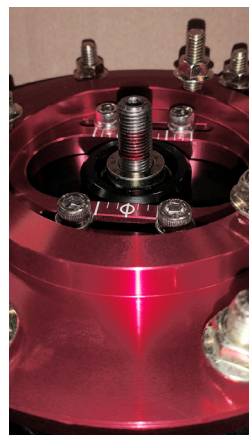

Fig. 22
8. Apply the included Loctite® 262 onto the strut rod where the lock nut will engage (Figs. 22 & 23).